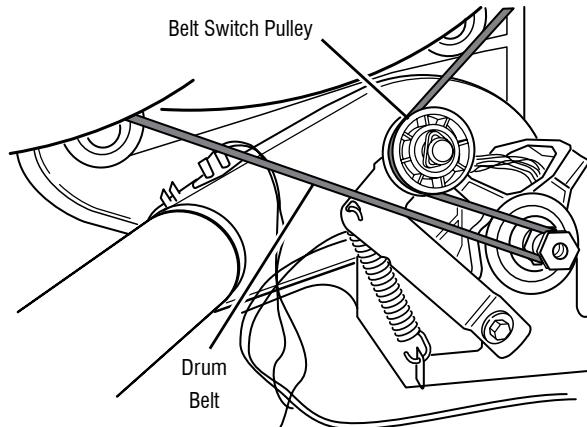

Figure 8 - Slowly remove drum belt
7. Check the drive motor. Slowly remove the drum belt from the spring-loaded pulley, gently letting the pulley down. See figure 8.